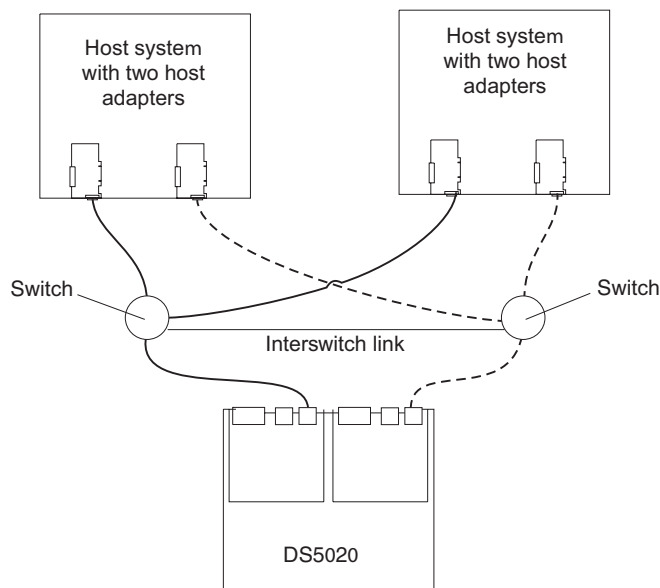

Figure 57. Example of a single SAN fabric configuration
- Single SAN fabric configuration, as shown in Figure 57 on page 88
In Figure 57, the Fibre Channel switches are connected together via the inter-switch link (ISL) to form a single SAN fabric.